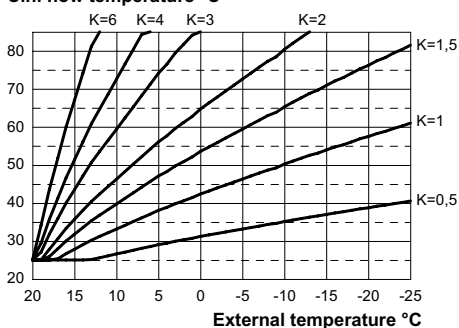

Fig. 7.19
If the boiler is **EQUIPED** with the remote control (optional) refer to Fig. 7.19. In this case K setting must be done from the remote control.
The K coefficients is a parameter that increases or reduces the boiler flow temperature when the outside temperature changes. When installing the external probe it is necessary to set this parameter based on the efficiency of the heating plant in order to optimise the flow temperature (Fig. 7.19).
E.g. In order to have a flow temperature at the heating plant of 60°C with an external temperature of -5°C, set a K at 1.5 (sectioned line in Fig. 7.19).
- Using keys 15 or 16 it is possible to change the value of parameter 15 from a minimum of **01** to a maximum of **60** based on the selected bend of the K coefficient in Fig. 7.19 (the value read on the display corresponds to K coefficients decimal values).